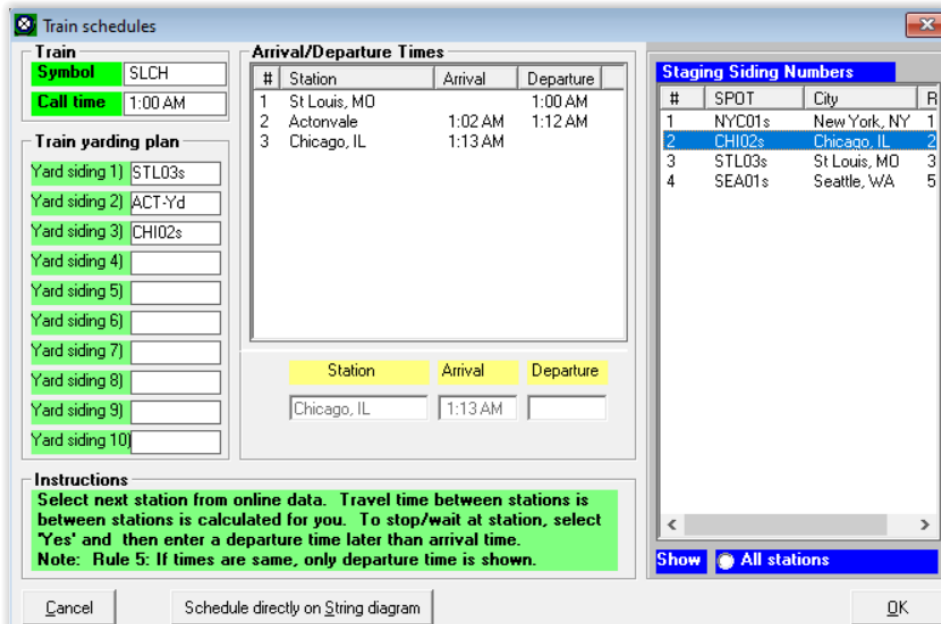

Figure 12-17
- Now let's enter the last stop at CHI02s. At the bottom of the right hand panel click on the "Staging" radio button to display staging tracks. Then double click on CHI02s to select our destination. This will immediately enter the final stop into our timetable as shown in Figure 12-17.